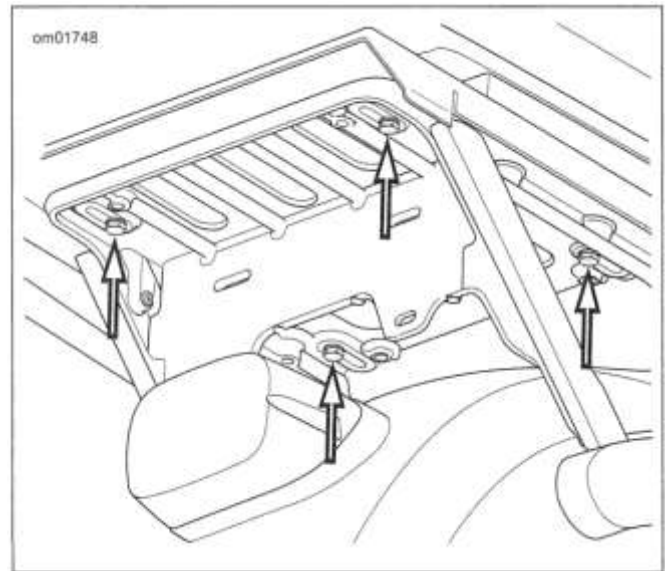
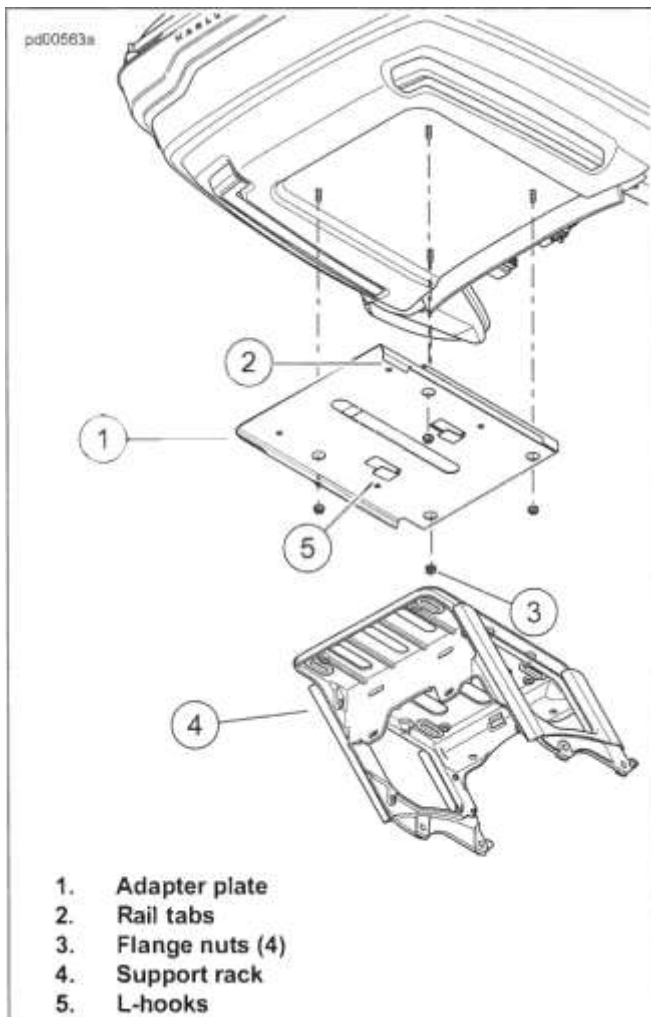

Figure 3-182. Tour-Pak Bracket Screws (APC Models) flange nuts.
Figure 3-181. Tour-Pak Adapter Plate
3. APC models: See Figure 3-182. Remove four screws and flat washers adapter plate from support rack. Slid forward to release L-hooks.
4. APC models: See Figure 3-181.
- a. Engage L-hooks (5) in support rack (4).
- b. Align rear holes with rear slots in support rack (4).
- c. See Figure 3-182. Loosely install rear washers and screws.